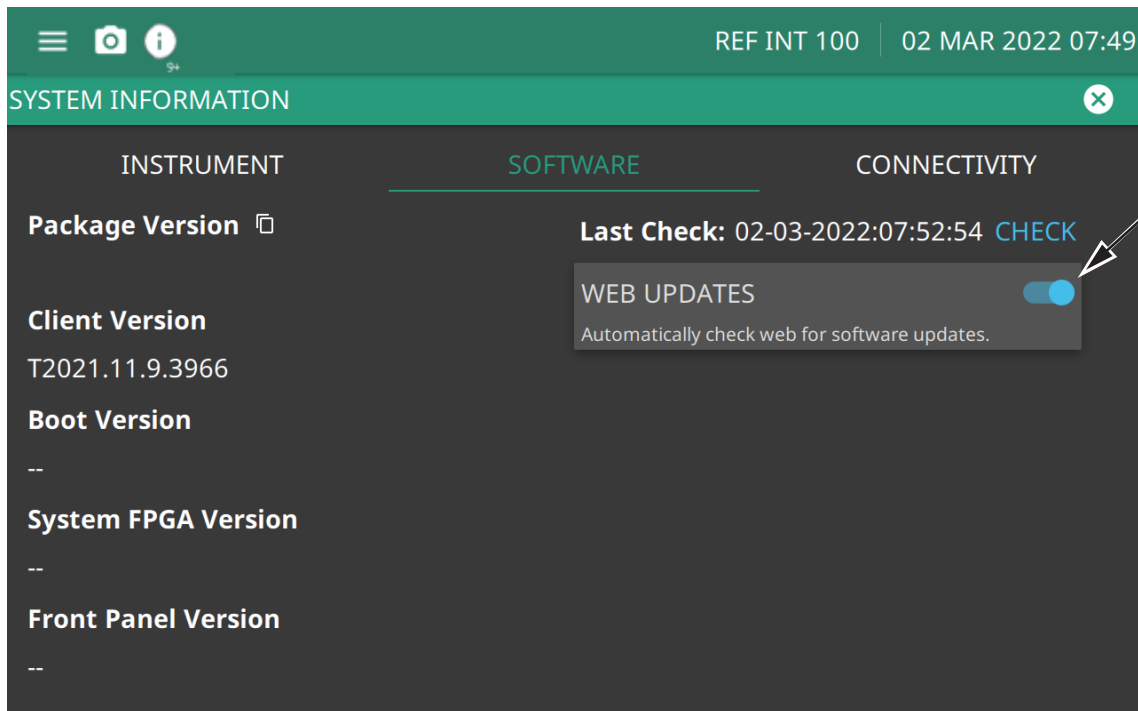

Figure C-1. Web Updates Button
4. Touch the WEB UPDATES button to the on position as shown in Figure C-1 to automatically check the for Anritsu website for updates.
11. Verify that the Package Version firmware as shown in Figure C-1 on page C-1 shows the most recent version firmware is installed.
9. Verify the Package Version firmware, as shown in Figure C-1 on page C-1, shows the most recent version firmware is installed.